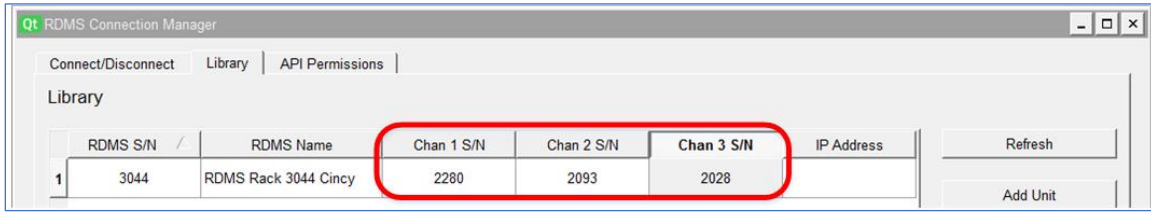

Figure 15: Library Tab, Channel Serial Numbers Added to Library List
4. Type in the serial numbers for Channel 1, Channel 2, and Combiner (Chan 3 S/N), as shown in Figure 15. These can be supplied by Quasonix or detected using the Scan Ports function. Refer to section 2.3.1.1.